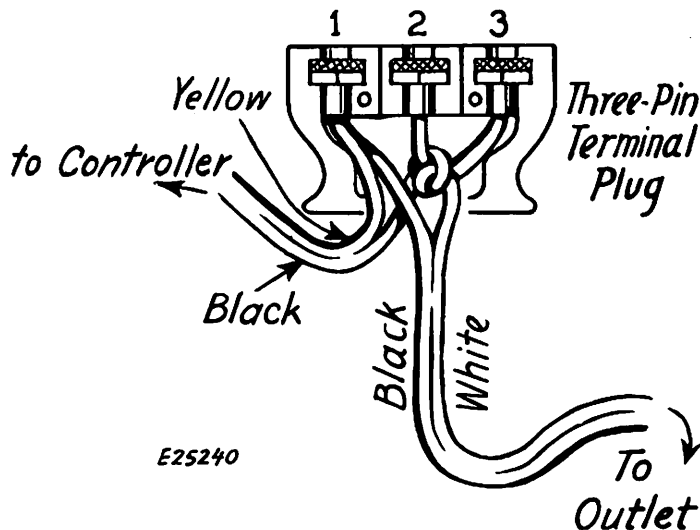

Fig. 11. Wiring Connections to Three-Pin Terminal Plug
**CONTROLLER LEADS**—For all Portable Machines equipped with foot controller—Fasten lead with **YELLOW** marker to connection sleeve No. 1, Fig. 11, on three-pin terminal plug. Fasten **SOLID BLACK** lead to connection sleeve No. 2, as shown in Fig. 11.
**LINE LEADS (Electric Outlet Plug Leads)**—ALL MOTORS—Fasten **SOLID BLACK** lead to connection No. 1 of three-pin terminal plug and **WHITE** lead to connection No. 3 of terminal plug, as shown in Fig. 11.